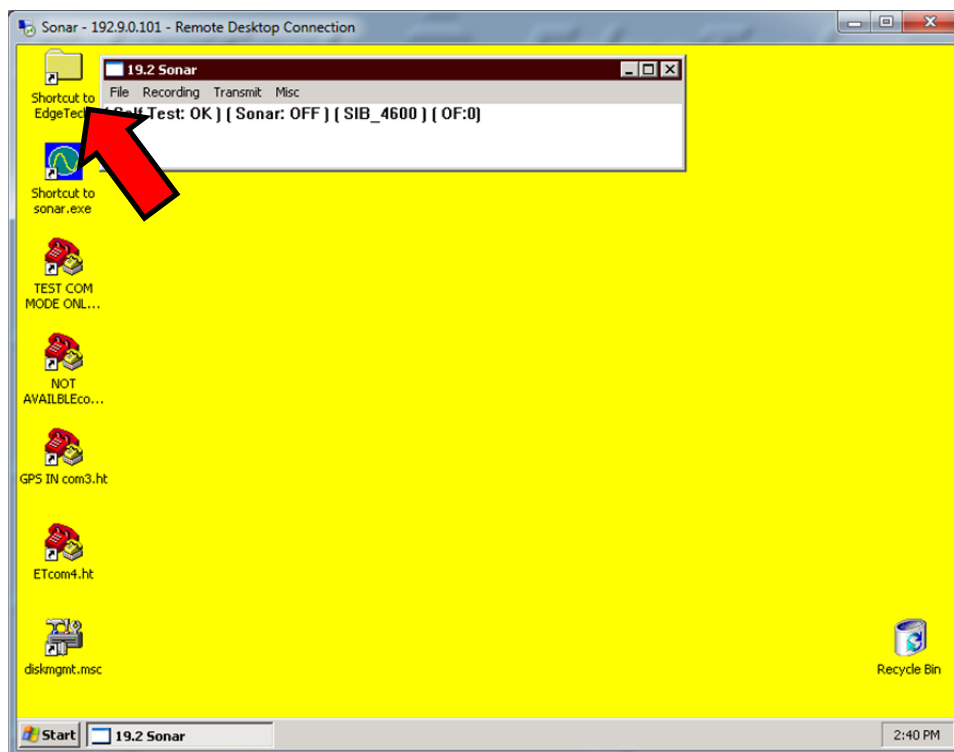

Fig. 2 - Sonar Remote Desktop, Shortcut to EdgeTech folder
4. Now, double click on the *Shortcut to EdgeTech* icon (red arrow, Fig. 2) and open the *SSSonar* folder, then the *Sonar* folder.